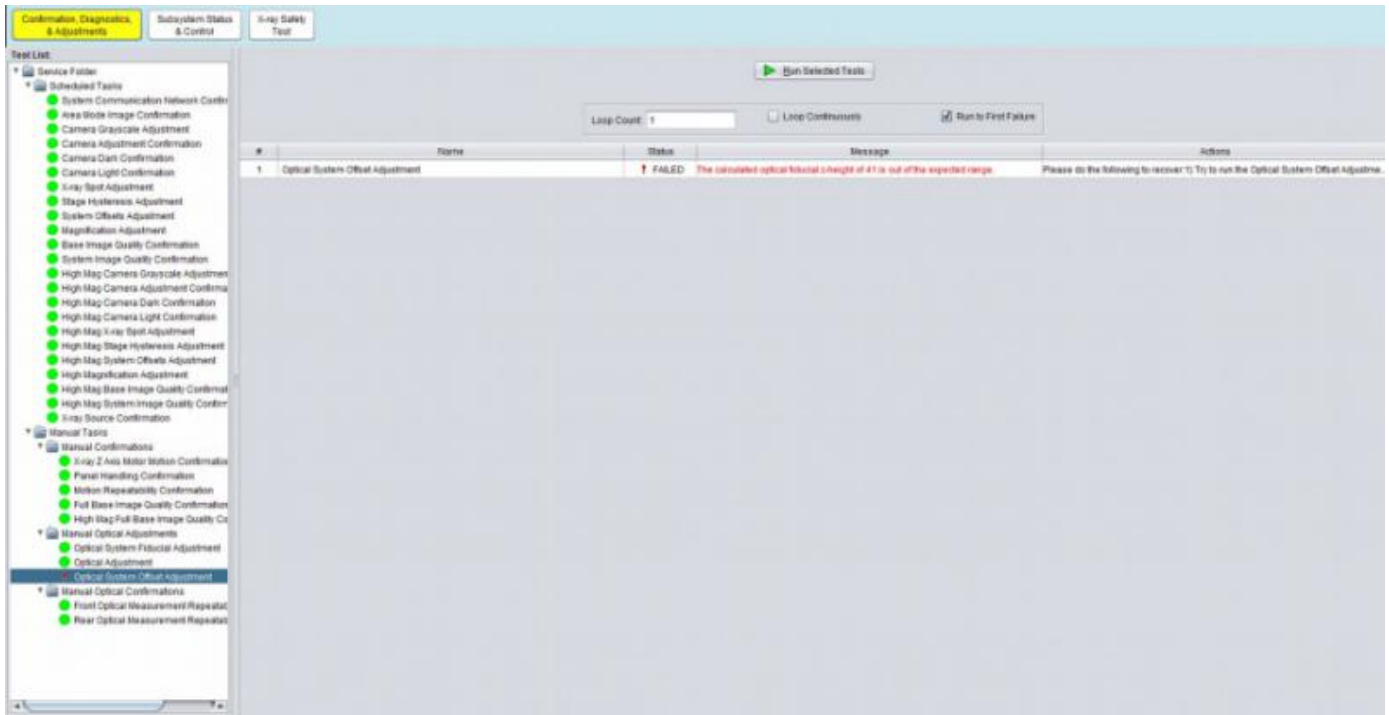

Figure 33 Optical System Offset Adjustment
24. If the Optical System Offset Adjustment failed as shown in Figure 33, go to the following folder